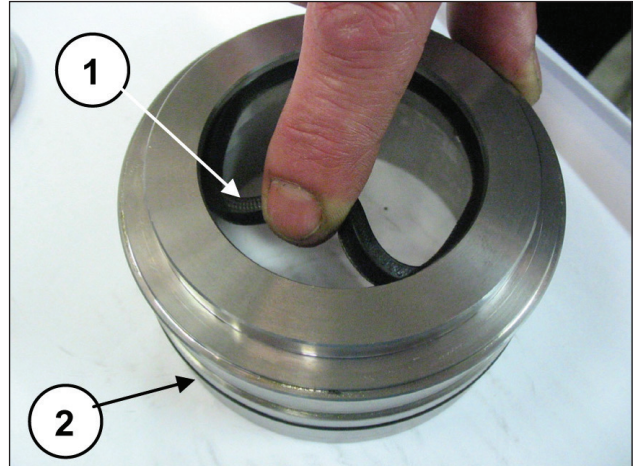

Fig. 169
Insert the low pressure seal in the packing support (pos. ①, Fig. 169) paying attention to the mounting direction which requires that the sealing lip be set forward (towards the head) and the O-ring (pos. ②, Fig. 169).